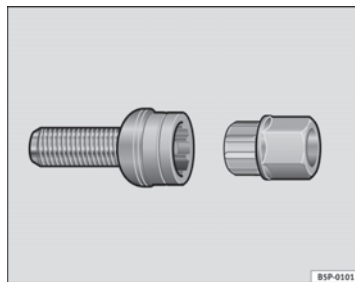

Fig. 139 Anti-theft wheel bolt
- Insert the adapter onto the wheel bolt and push it on as far as it will go ⇒ fig. 139.